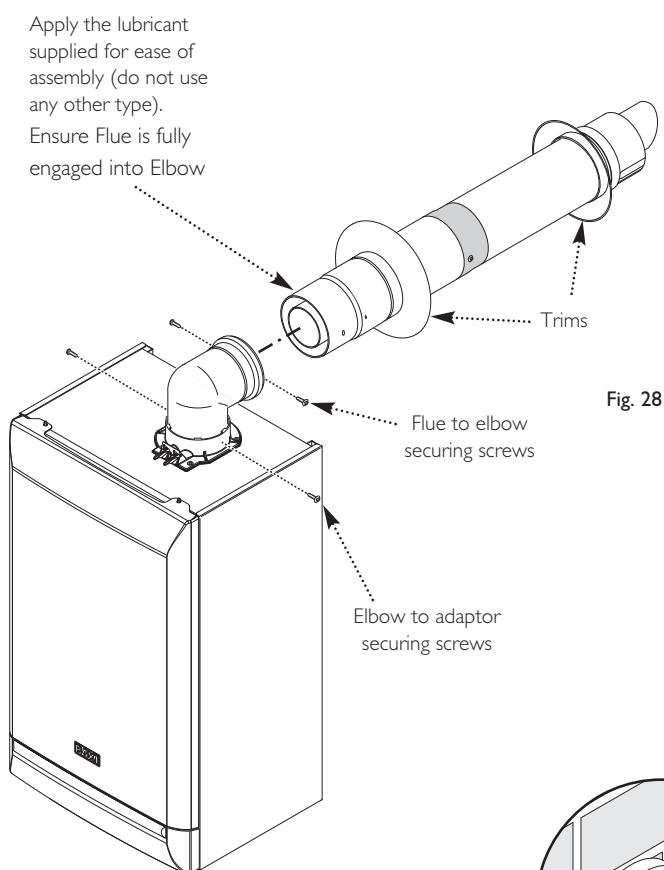
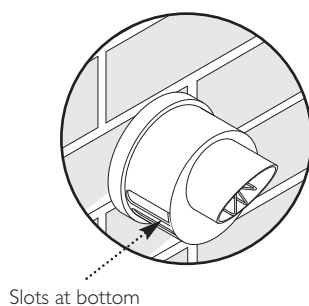

Fig. 28
Fig. 29
14. Draw the flue back through the wall and engage it in the elbow. It may be necessary to lubricate to ease assembly of the elbow and flue (Fig. 28).
15. Ensure that the terminal is positioned with the slots to the bottom (Fig. 29). Secure the flue to the elbow with the screws supplied (Fig. 28).
16. Secure the elbow flue to the boiler adaptor with the screws supplied in the boiler fittings pack (Fig. 28).